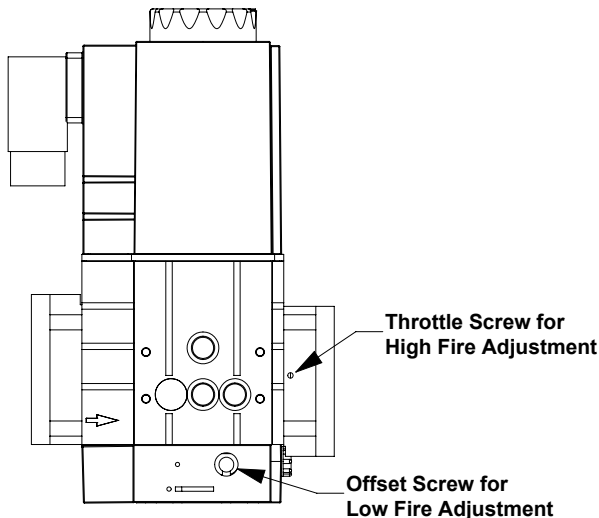

Figure 23: Gas Valve Air-to-Fuel Adjustment
- d. If high fire O₂ is too high (CO₂ is too low), decrease O₂ (increase CO₂) by turning the throttle screw towards the "Plus (+)" sign in 1/4 turn increments and checking the O₂ (or CO₂) after each adjustment. Refer to Figure 23 for location of throttle screw. Verify CO air free is less than 200 ppm.